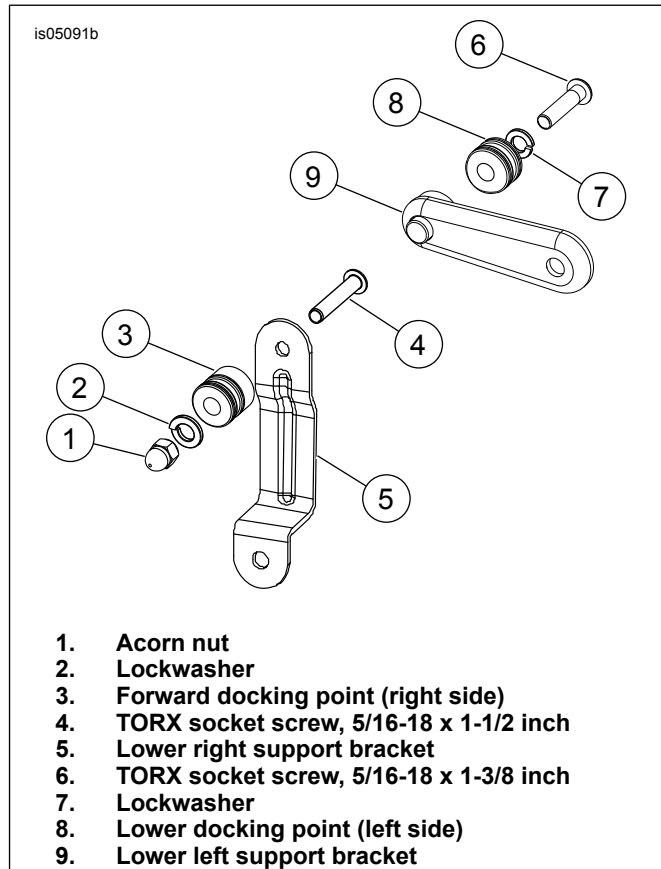

Figure 3. Support Bracket Assemblies (2008 model year)
1. See Figure 3. Using the 1-1/2 inch TORX socket screw (4) stack the following parts in order; through backside of right lower bracket (5), docking point (3), lockwasher (2) and acorn nut (1).
- See Figure 3. Using the 1-3/8 inch TORX socket screw (6) stack the following parts in order; lockwasher (7), lower docking point (8), and assemble to bracket (9).